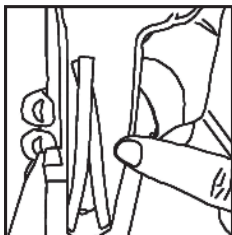

FIGURE 9A
STEP 1: When installing the blade, separate the two *water feed hoses* inside the *blade guard* to allow the blade to sit between them (FIGURES 9a and 9b).